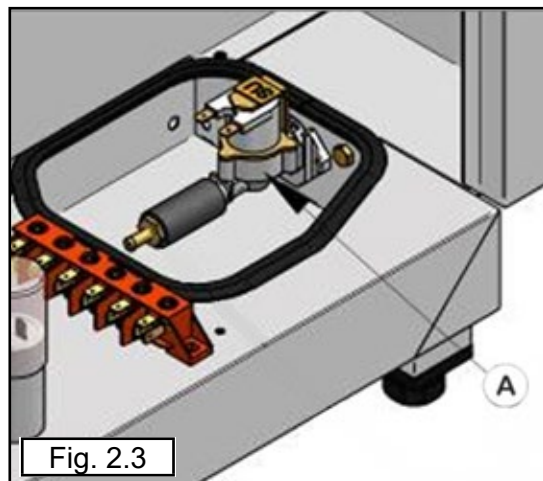

Fig. 2.3
In Convection + Humidification and Combi Direct models, the solenoid valve (A) supplies the steam generation in Combination and Steam cycles (Fig. 2.3).